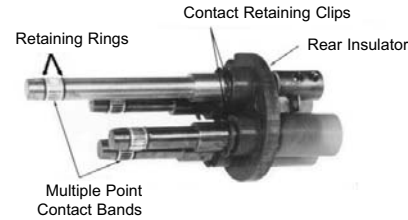

Figure 7. Contact Retaining Clip Locations
4. Install the contact retaining clips onto each contact when fully inserted into rear insulator body. See Figure 7.